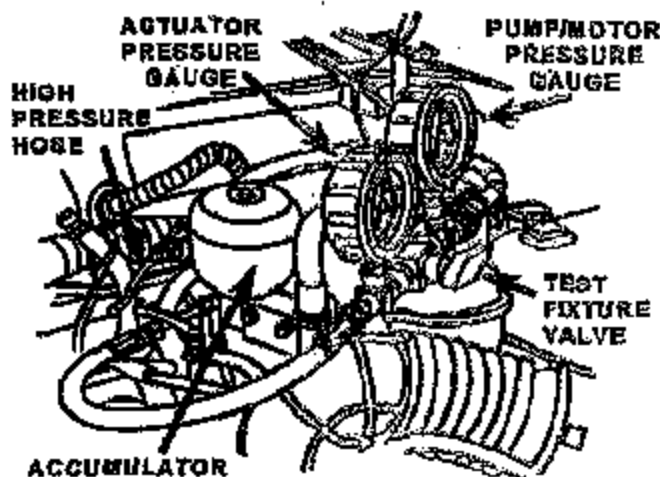

Figure 1
A. Locate the high pressure brake hose going from the pump/motor to the accumulator (Figure 1). Clean the area where the high pressure hose attaches to the accumulator block fitting.
C. Install the test fixture in-line with the high pressure hose (Figure 1). Loosely install the test fixture hose onto the accumulator block fitting.
E. Position the test fixture as shown in Figure 1 and then tighten the fittings to 132 in-lbs (15 N·m).